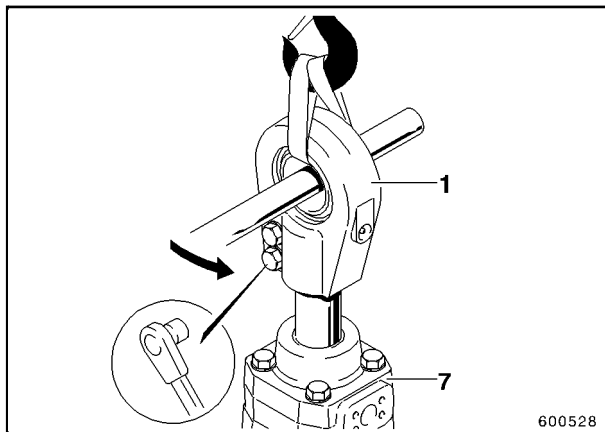

Fig. 14
- Remove bearing eye (1, Fig. 14) and guide (7).